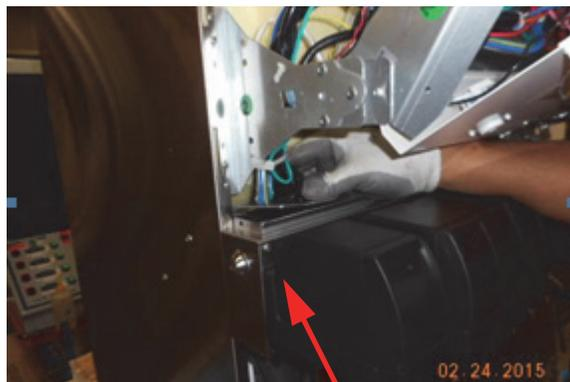

Figure 5.
2. Locate key switch on left side of unit. To allow better access behind beverage panel it may be necessary to loosen screws attaching left side of beverage panel (See Figure 5).